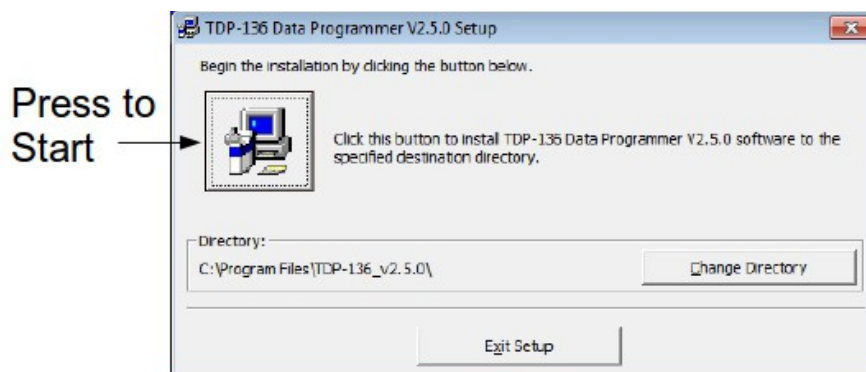

Figure 2-1. TiL TDP Installation Dialog
| Figure 2-1. TiL TDP Installation Dialog..... | 3 |
2. After setup finishes unpacking the software, a dialog box will pop up with the option to install the software, see figure 2-1. Additionally you can specify a different install directory if you wish.